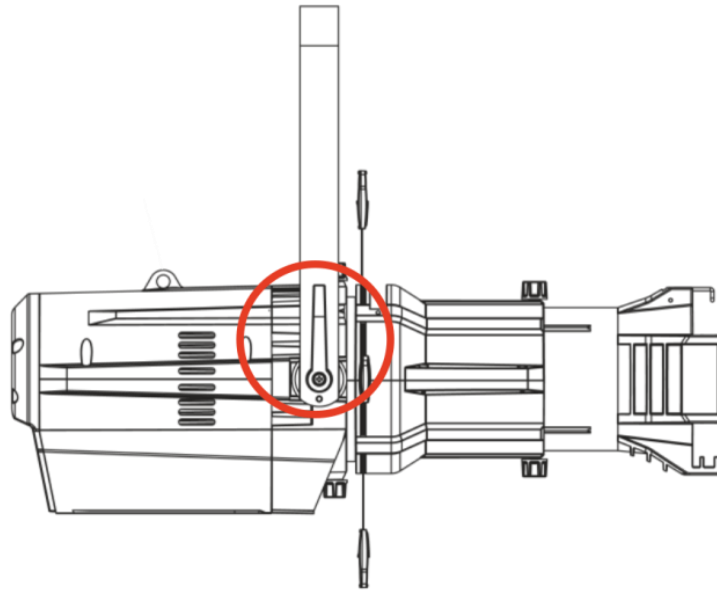

Fig. 11
- 02) Tilt the fixture to the desired position (Fig. 11).